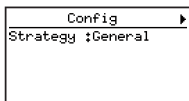
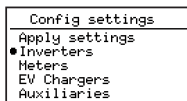

fig. 4: Config page
fig. 5: Config settings
- 2.1** Go to the “Config” page (fig. 4) in the menu and open the “Config settings” (fig. 5) with the **OK** button. The basic system settings are done in this menu.